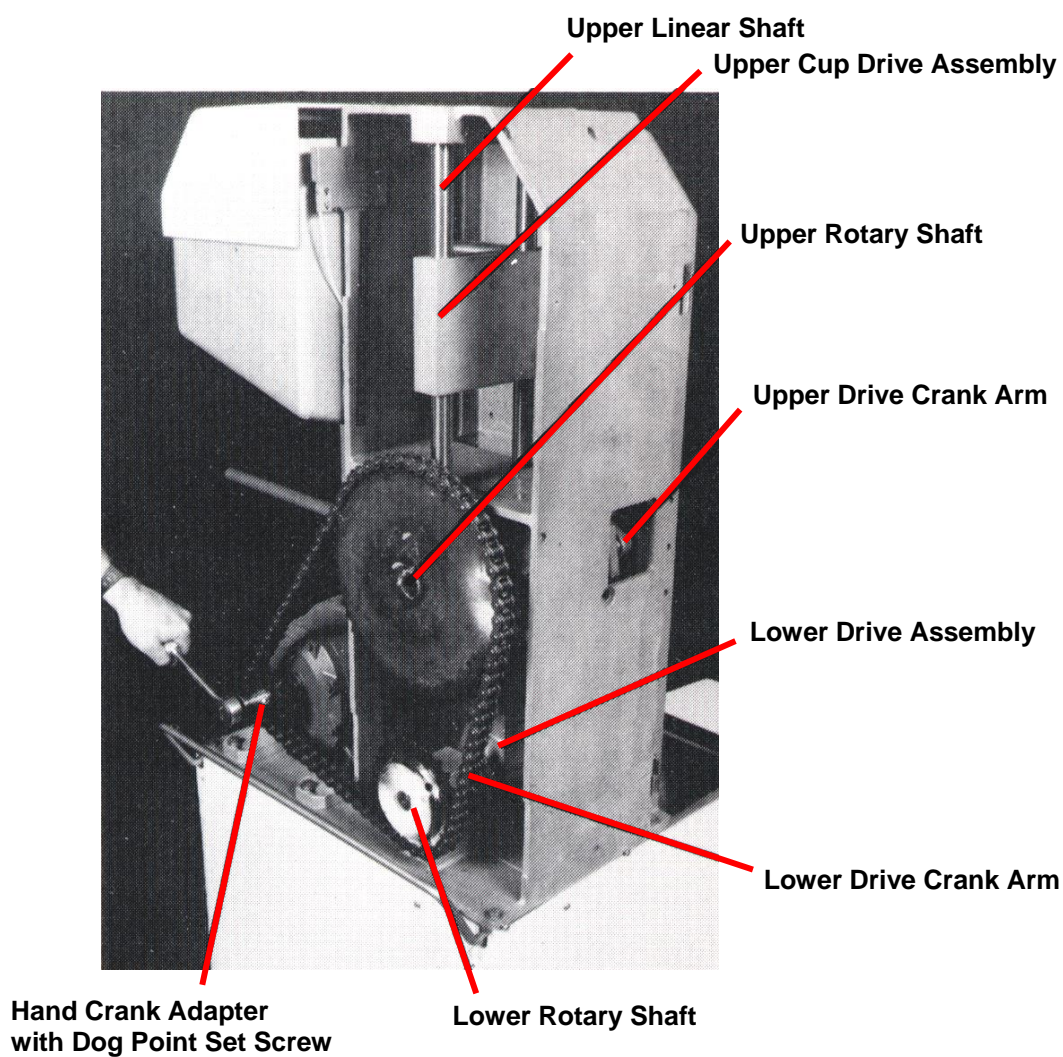

Figure 21. Back View of Juicer
Refer to Figure 21 and Figure 41, item 12.